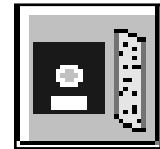

Figure 11-3
2. Click on the Import tool shown in Figure 11-3 to display the Import dialog box.